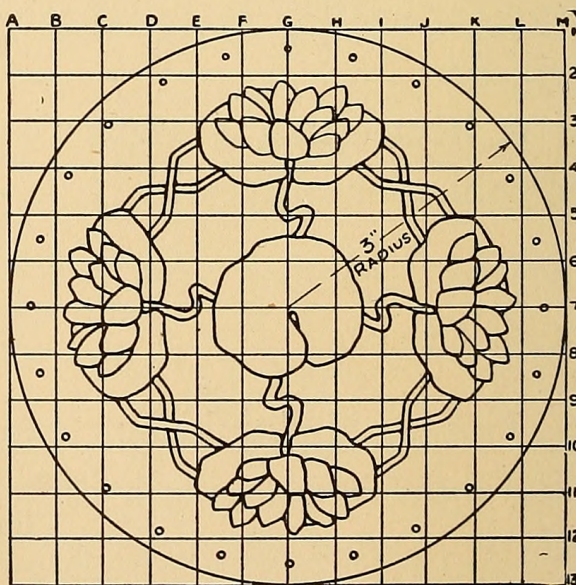

FIG. 281. — Pattern for Top of Tea-pot Stand and Calendar Board.
**Enlarging by Squares**, which is easy to carry out. Each of the small squares drawn across these designs represents a space on the full-size pattern  $\frac{1}{2}$  inch square (Fig. 281). The first thing to do is to lay out, full size, the outlines and marginal lines of the piece of brass required for the article upon a piece of drawing-paper, using the dimensions given upon the diagram. Take one side of the 12-by-20-inch board for a drawing-board and use the other side to do the piercing on; tack the paper to the board. Then when you have carefully checked up the measurements with those upon the diagram, lay off the squares upon it, making each of those shown  $\frac{1}{2}$  inch each way; then number one end of the horizontal lines and letter one end of the vertical lines as shown, and it will be a simple matter to locate each portion of the design upon your pattern just where it is shown in the book, for, by the lettering and numbering, corresponding
The pattern for the top brass covering is shown in Fig. 281. After the design has been laid out full size upon brass, the piece should be cut out before the perforating is done and fastened to the base with escutcheon pins. Describe a circle about  $\frac{3}{16}$  inch inside of the edge of the brass, locate positions for the pins around this,  $\frac{3}{4}$  inch apart, and punch the holes at these points with the piercer before driving the